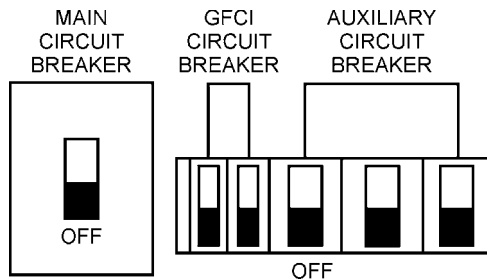

Figure 24. Main, Aux. and GFCI Circuit Breakers (OFF)
1. Place the **main, G.F.C.I., and aux.** circuit breakers (Figure 24) in the **OFF** position prior to starting the engine.